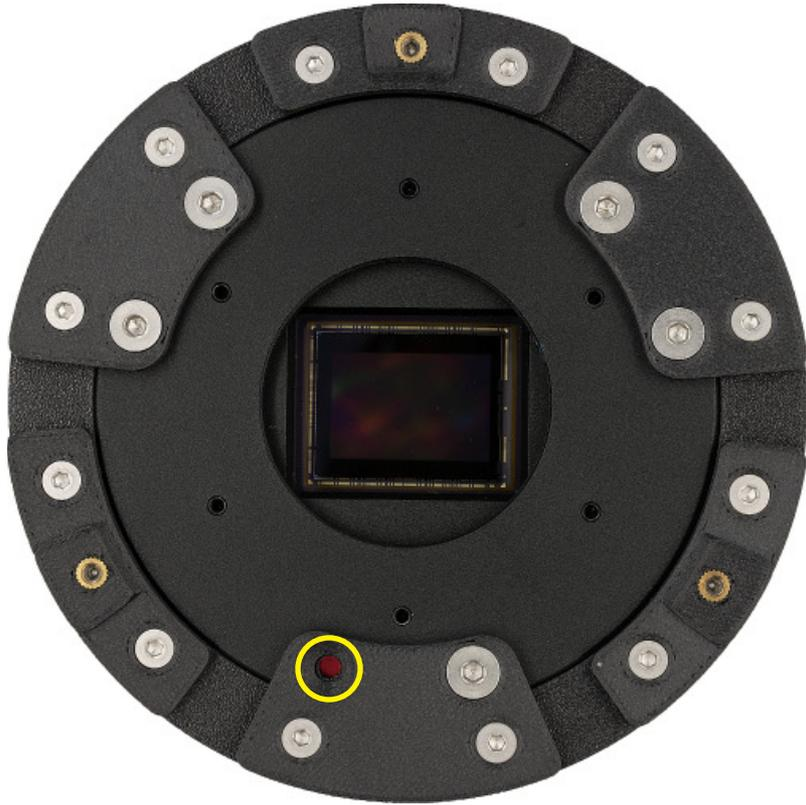

fig. 31
4. From the first tab (T1, T2 or T3 - whichever you choose), unscrew one M4x8 screw (see fig. 31).